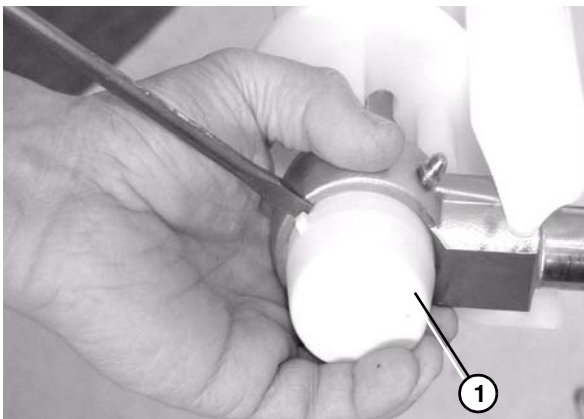

Figure 66
3. Remove the bearing cover (**Figure 66, item 1**).
6. Attach the bearing covers. Reference (**Figure 66**).
5. Replace the bearing. Reference (**Figure 66**).